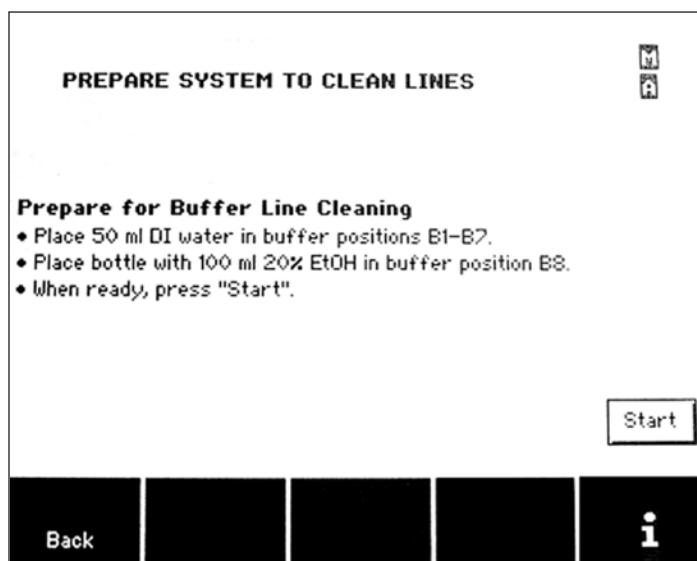

Fig. 9.10. Prepare system to clean buffer lines screen.
4. Follow the directions displayed on the screen (Figure 9.10).